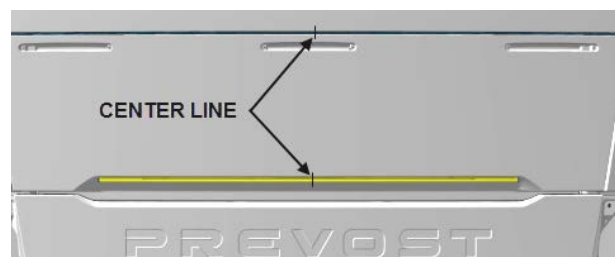

FIGURE 23
3. To ease the drip edge installation, draw reference lines indicating the center of the rear end to make sure that the drip edges will be installed perfectly centered (FIGURE 23). You may use the center high mounted stop light as reference to find the center of the rear end.